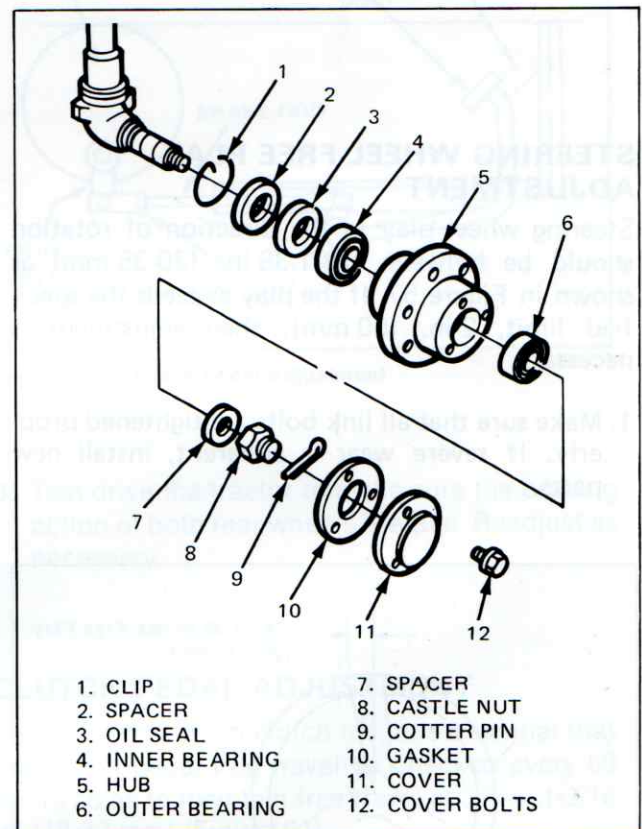

Figure 56 — Servicing Front Wheel Bearings — Two-Wheel Drive
2. Jack up one of the front wheels, remove wheel and remove the hubcap, the cotter pin, and the nut, Figure 56. Remove the thrust washer, outer bearing, and then the complete wheel assembly.